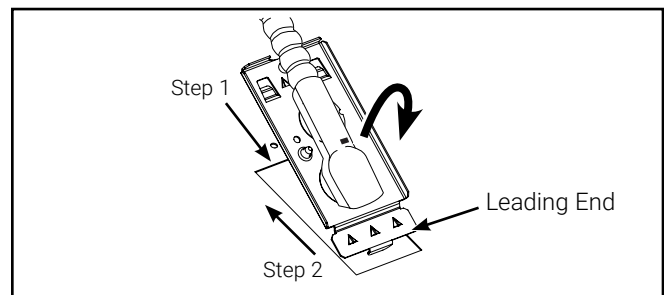

Figure 2.
4. Remove electrical access plate and remove necessary knockouts from access plate for attachment of electrical supply cable (Figure 2).
- Step 1: To insert access plate, rotate until leading end is inside the wireway (Figure 2).